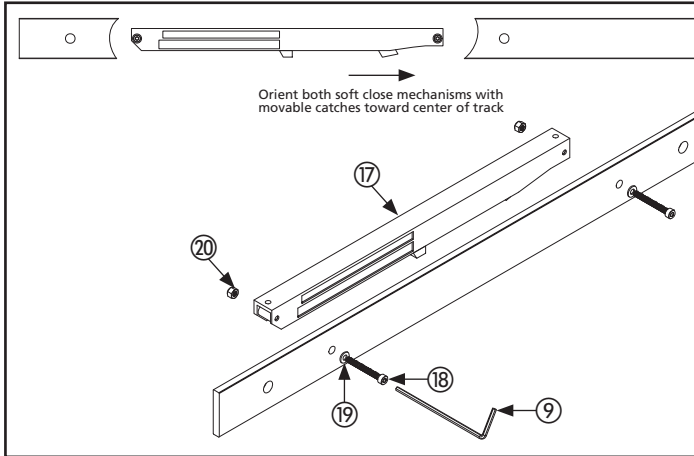

Figure 16. Soft Close Orientation
1. Align the soft closes ⑰ on the track as shown in Figure 16, with catches cocked towards the center of the track.
2. Fasten the soft close to the track using the supplied M4 x 35mm socket cap screws ⑱, M6 washers ⑲ and M4 locking nuts ⑳.
3. Fasten with supplied 3mm Allen wrench ⑨.